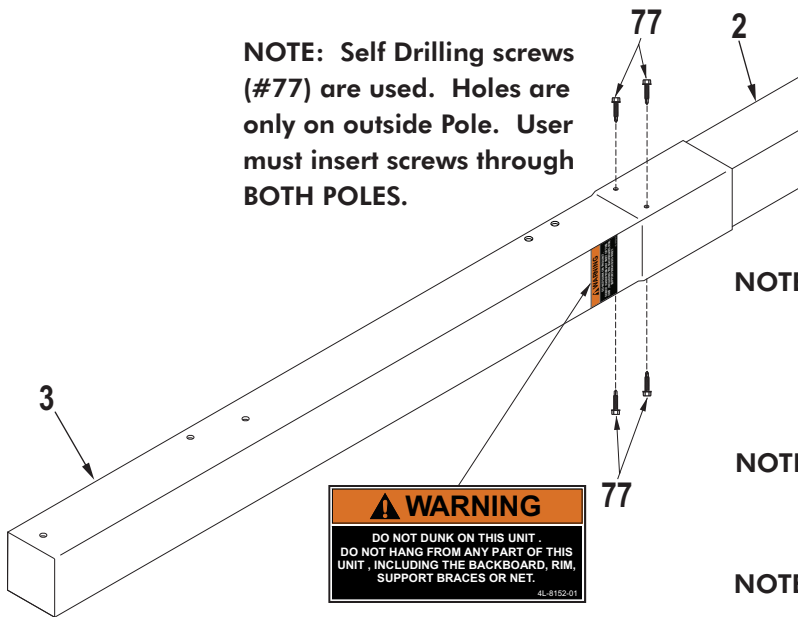

Figure 4
3. Once the Top pole is to the 6" Mark on the Warning Sticker, lay Pole Assembly on its side on two padded saw horses. Insert a (#77) Screw into each 3/16" hole in top Pole, two on each side of the Post Assembly. You will need someone to hold the Pole assembly while inserting screws. Screw must go through both Top and Bottom (Inner) Poles. Make sure to not strip screws once they are all they way through. See **Figure 4**.